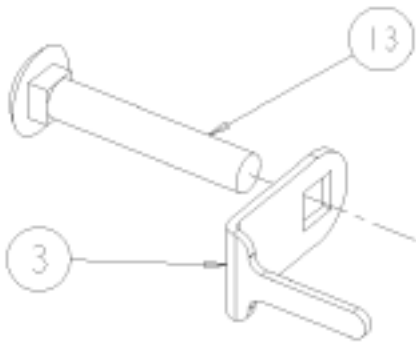
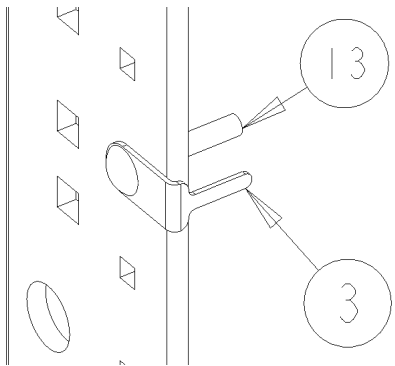

Figure 2a. Sliding the antiturn clip over the carriage bolt.
Figure 2c. Carriage bolt and clip installed on the interior bus bar. (Note that this is an isometric view from the left.)
2. Assemble the antiturn clips onto the carriage bolts. Slide the antiturn clip [3] over the corresponding square shank of the carriage bolt [13], as shown in Figures 2a and 2b. Install these parts onto the interior bus bars, as shown in Figure 2c.